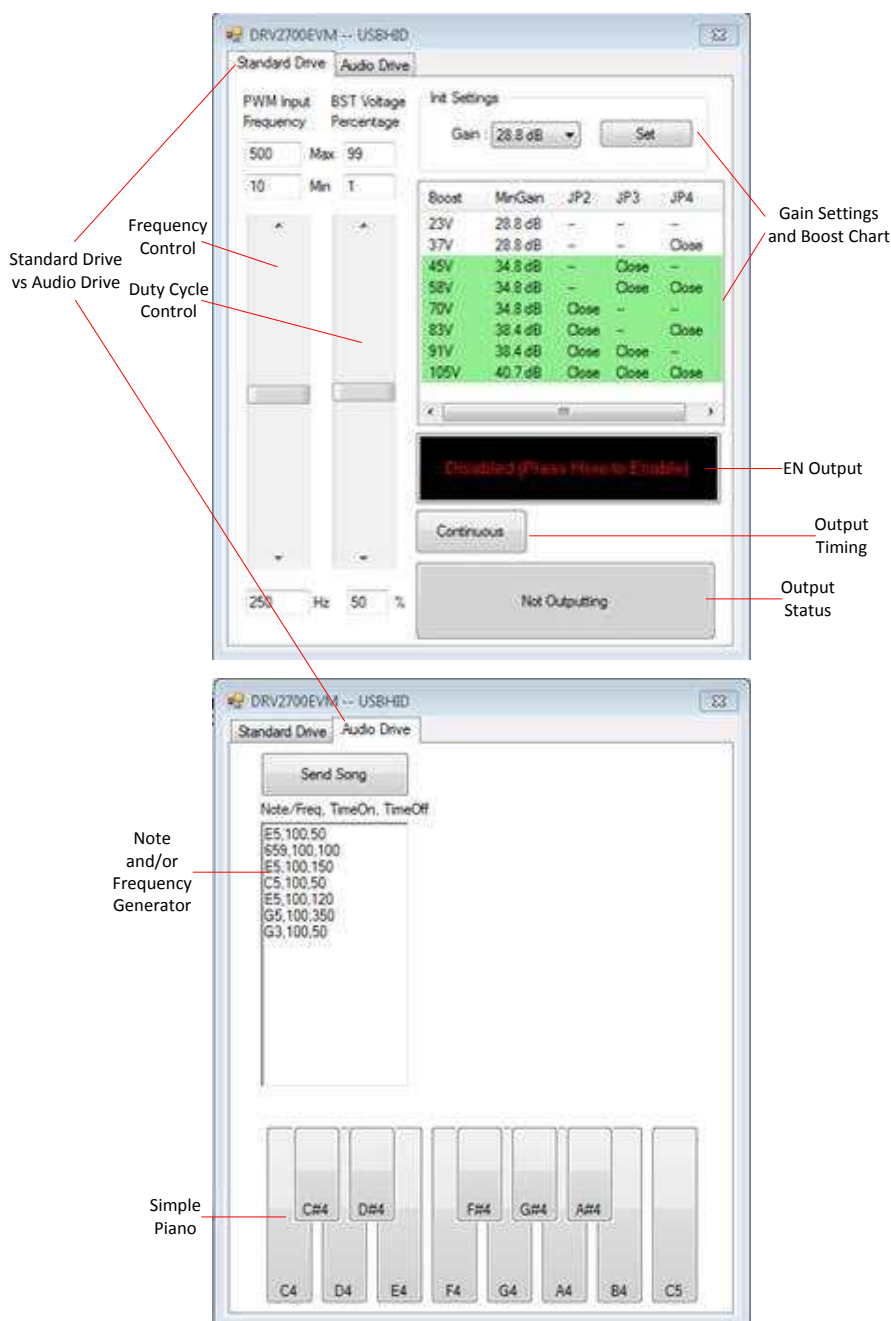

Figure 7. GUI Interface
By default, the DRV2700EVM can be controlled programmatically through the GUI Interface. Figure 7 is a screenshot of the GUI.
- **Note Generator and Simple Piano:** The DRV2700 is capable of also driving piezo loads used in many alarms and buzzers. To sample this, the simple piano sends the corresponding frequency of the notes when pressed. If a series of notes and/or frequencies with specific timing is desired, the note generator can be used in the format of “[Note],[TimeOn],[TimeOff]” as shown in Figure 7. The note format is A–G (including sharps “#” but not flats “b”) followed by the octave, and the frequency is in Hz rounded to the nearest integer. Some examples include: A4, C#5, E5 (or 659), and so forth. All time inputs are based in milliseconds.